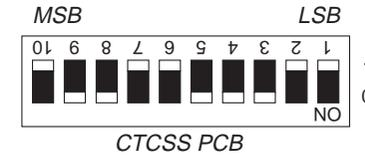

Figure 5 DIP Switch Programming
Refer to Table 1 and Figure 5.
The DIP switch codes for standard EIA tones are set out in Table 1 on the following page. Program the DIP switch (SW1) on the T800-02 PCB as shown in Figure 5.
3. Convert to binary code and program the DIP switch (LSB to “1” switch and MSB to “10” switch) as shown in Figure 5.